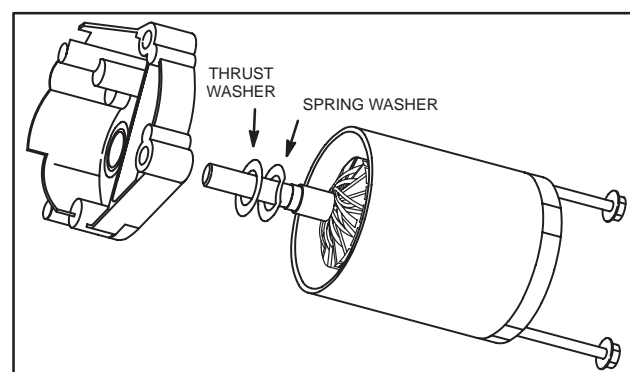

Fig. 38 – Install Drive End Cap (Typical)
1. Assemble spring washer and thrust washer to armature shaft, Fig. 38.